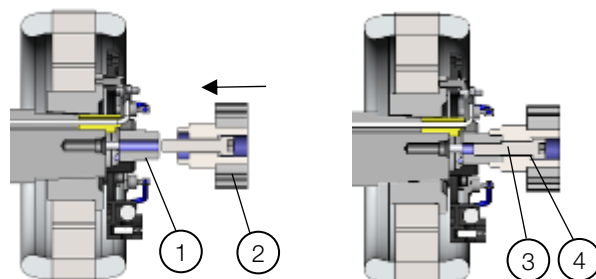

Figure 14.35: PMG rotor coupling
- 2) Fit the PMG rotor in the main exciter rotor coupling bushing and fasten it through the internal hexagon headed screw M12 with torque of 120 a 140 Nm and anaerobic chemical lock, according to Figure 14.35;
Key of Figure 14.35: